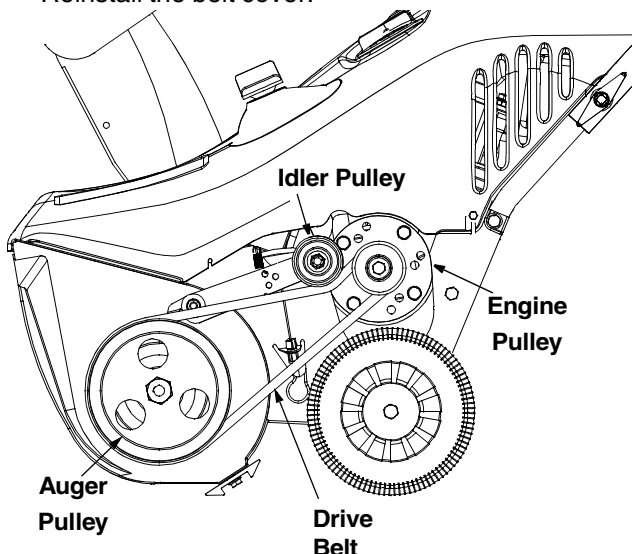

Figure 13
- Reassemble new belt. See Figure 13.